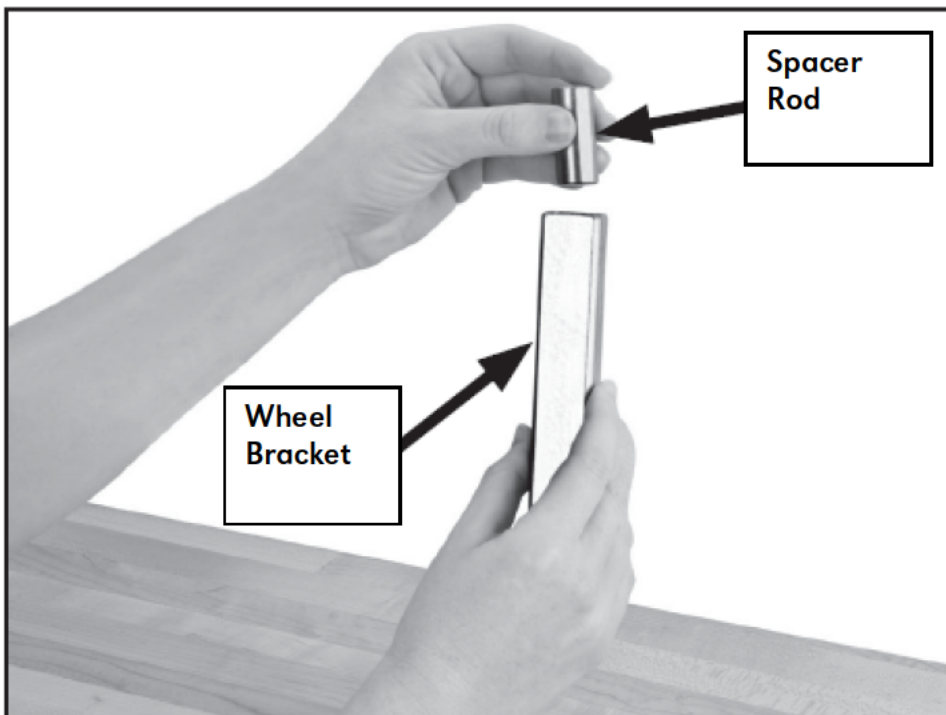

Figure 4. Inserting spacer rod into wheel bracket.
1. Insert the bracket spacer rod into the bottom of the lower wheel bracket, as shown in Figure 4.